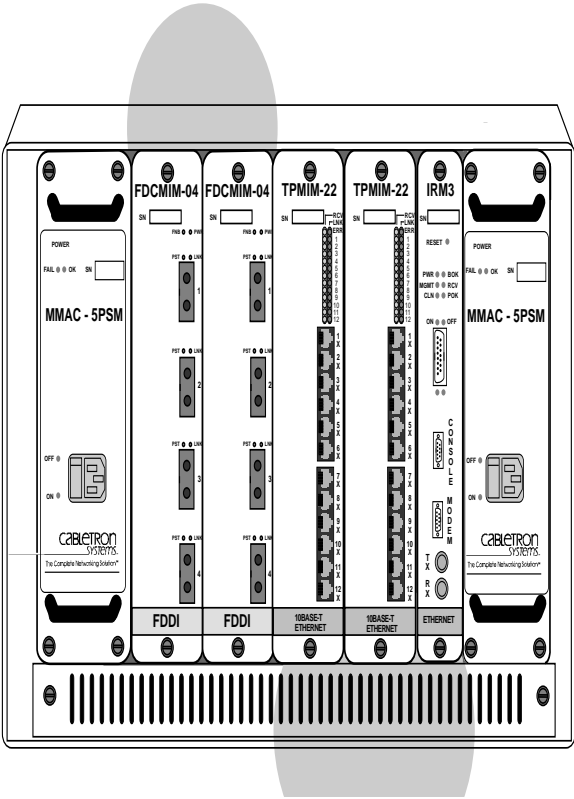

Figure 2-6. RJ-45 TP-PMD Port Pinouts
3. Holding the FDCMIM by the front panel, or by the edges of the circuit board, align the bottom and top edges of the card with the slot guides in the MMAC chassis. Be sure both the bottom and top edges of the card rest in the guide slots. (See Figure 2-6.)